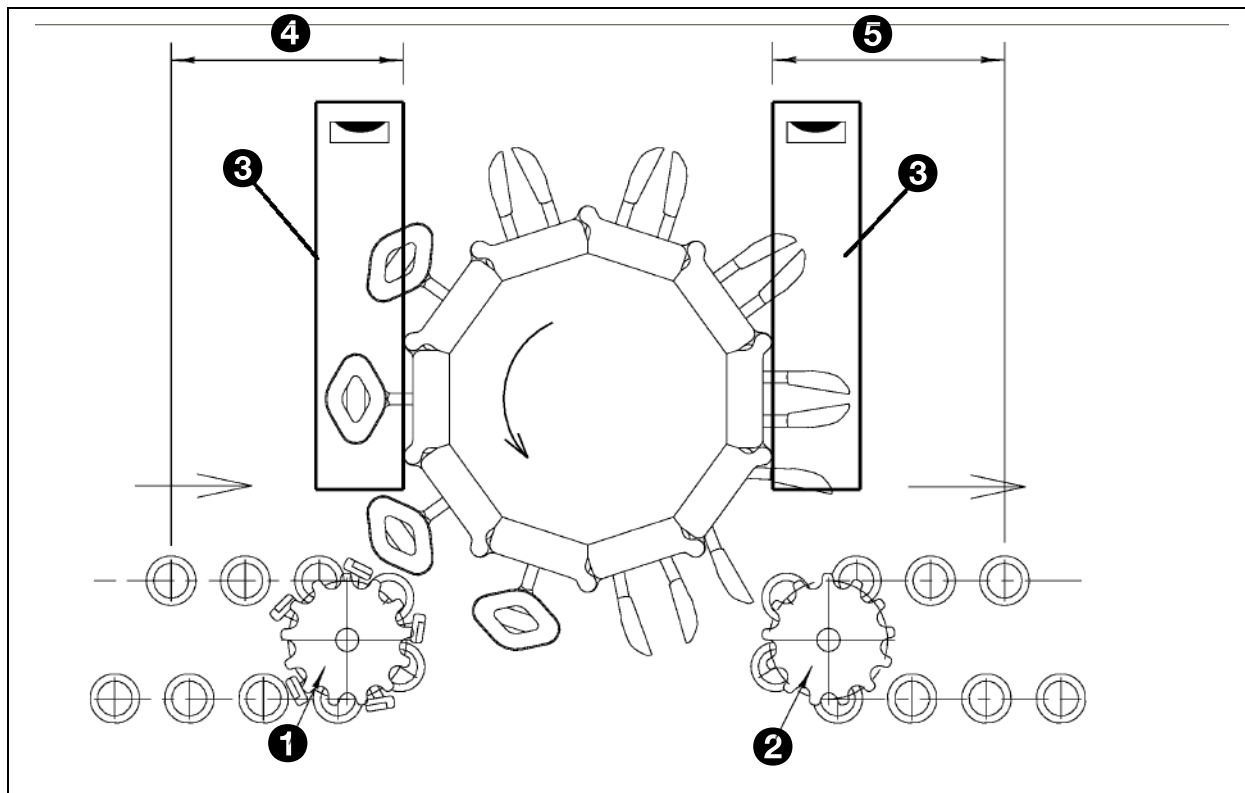

Fig. 12 - Turning section grippers
- 1 Turn the machine by hand until the turning unit is level (3) as shown in fig. 12.
- 2 Move the adjustable chain-wheels (1) on the return shaft of the broad rollers to set dimension (4), see fig. 12.
- 3 Move the adjustable chain-wheels (2) on the return shaft of the small rollers to set dimension (5), see fig. 12. (coarse adjustment)